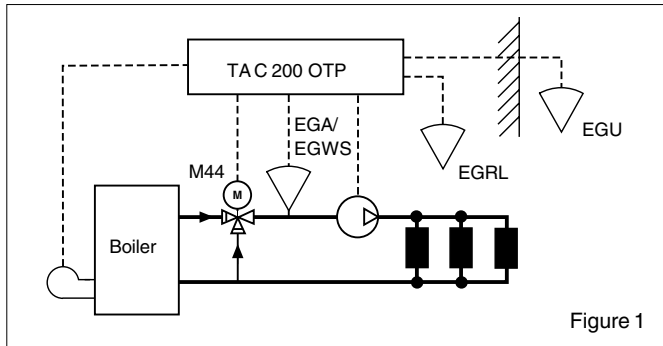

Figure 1
1. Mixing valve control circuit (figure 1).